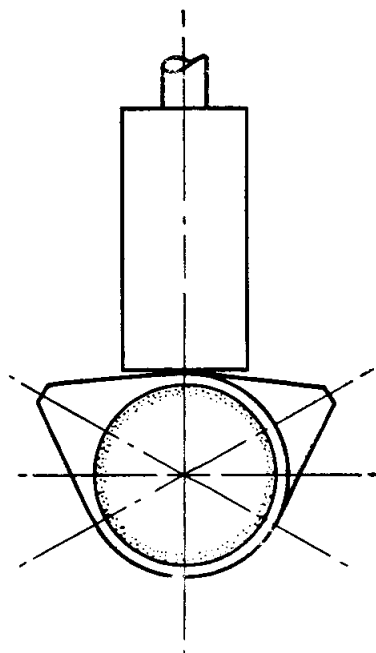
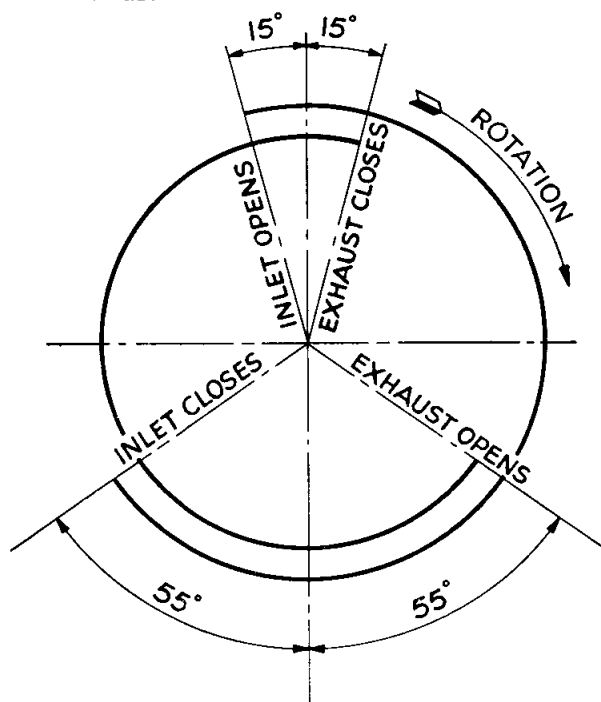

Fig. 24 The Valve Tappet is at Point of Balance.
Fig. 25
- (c) Rotate the camshaft until the exhaust valve and inlet valve of No. 4 cylinder are at the point of balance in which the tappets will be in the position shown in Fig. 24. In this position the exhaust valve will just be about to close and the inlet just commencing to open. From the timing diagram, Fig. 25, it will be observed that the inlet valve opens at 15° B.T.D.C. and the exhaust valve closes at 15° A.T.D.C. 15° before or after T.D.C. is equivalent to .081"